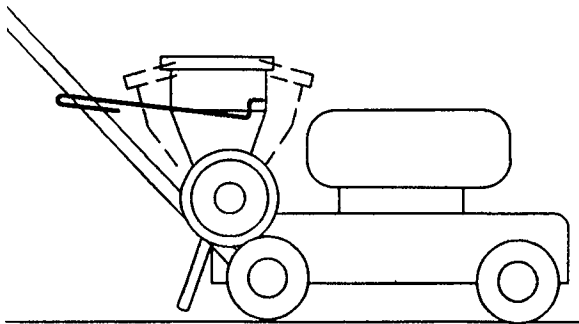

Figure 41
8. Adjust the hopper so it is level and tighten the handle knob securely to lock the hopper in place (Fig. 41).